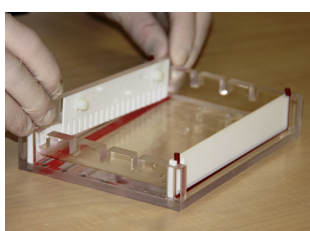

Fig.2
- Place the comb(s) in the grooves. Each tray has more than one comb groove so that multiple combs can be used (Fig.2). Using multiple combs increases sample number available per gel but decreases run length and care must be taken to ensure that samples from the first wells do not migrate into the lanes of the second comb wells